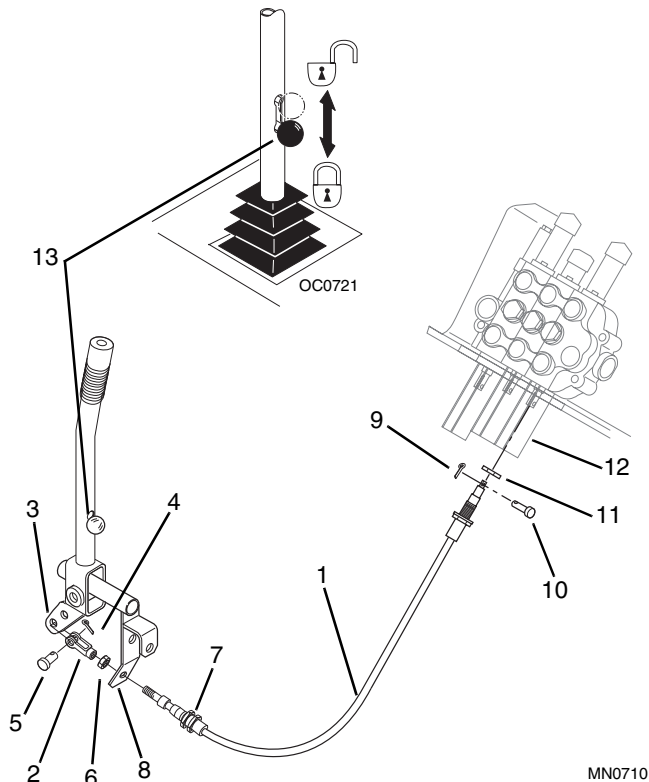
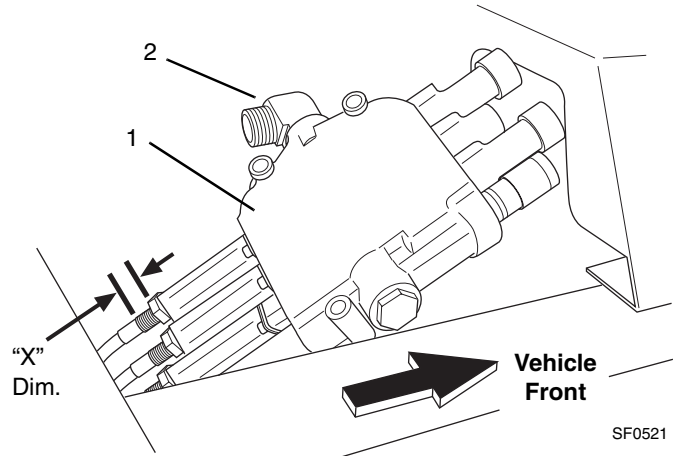

Figure 7-45 Auxiliary Hydraulics Cable
Figure 7-46 Main Control Valve Installation
1. Insert the valve end of the control cable (Fig. 7-45, 1) into the control valve strap adapter (12), and loose install the jam nut (11).
2. Adjust the length of the exposed threads (Fig. 7-46, "X" Dimension) on the cable housing to the measurement recorded during Step 7 of the removal procedure. If this dimension was not recorded, adjust the length of the exposed threads to 7/16" (11 mm). Tighten the jam nut (Fig. 7-45, 11).
3. Align the control cable (Fig. 7-45, 1) to the valve spool, and secure with a clevis pin (10) and cotter pin (9).
4. Reassemble the main control valve (Fig. 7-46, 1) to the crossmember with the original three capscrews, and tighten securely.
5. Remove the hose fitting cap and hose plug, and reassemble the hose to the fitting (Fig. 7-46, 2) on the left side of the valve. Torque the hose (Refer to Section 2.8, "Torques").
6. Insert the opposite end of the control cable housing (Fig. 7-45, 1) through the hole in the 4-way pivot (8), and secure with hex jam nut (7).
7. Loose install the hex nut (Fig. 7-45, 6) and yoke (2) to the threaded end of the control cable.
8. Center the control lever by engaging the control lever lockout (Fig. 7-45, 13). Pull out the lockout knob slightly, push the knob down to the bottom of the slot, and release.
9. Turn the cable yoke (Fig. 7-45, 2) as required to align it with the lower hole in the control lever (3). Insert the clevis pin (5), secure with a new cotter pin (4), and tighten the hex nut (6) against the yoke (2).
10. Release the control lever lockout (Fig. 7-45, 13). Pull the lockout knob out slightly, pull the knob up to the top of the slot, and release.